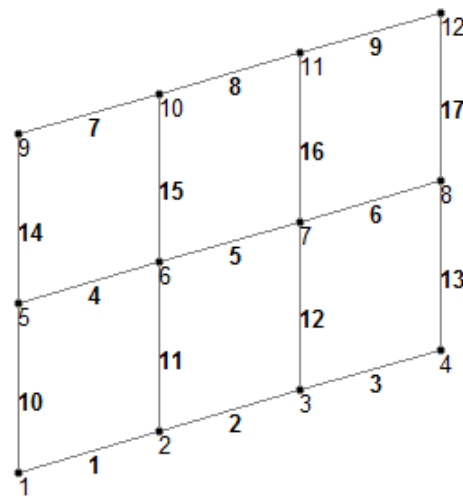

Figure 2-17 Nodes and members created
Step 2: Choose the **Save** button and close the **STAAD Editor** window; the nodes and members are created, as shown in Figure 2-17.